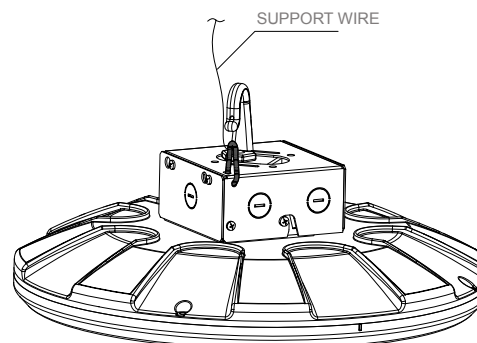

Figure 8
7. Support wire are required by installation Codes. Attach customer supplied support wire. See Figure 8.